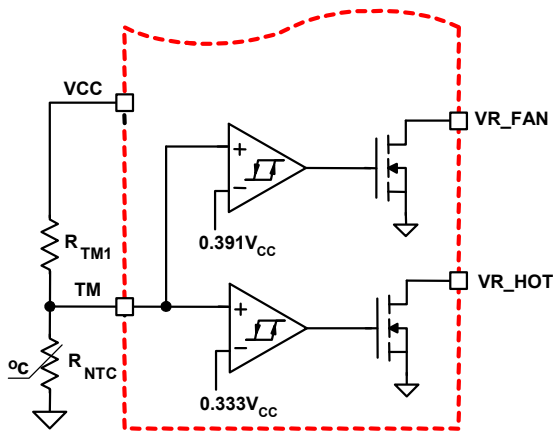
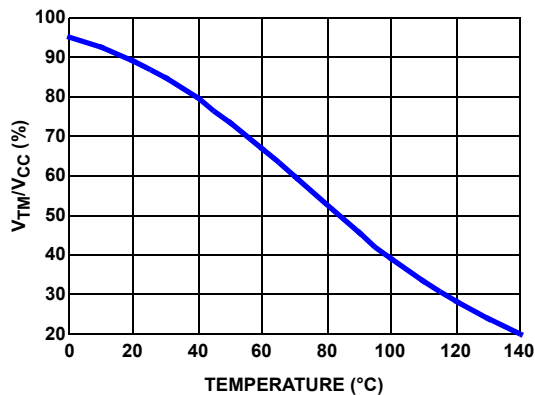

FIGURE 14. BLOCK DIAGRAM OF THERMAL MONITORING FUNCTION
FIGURE 15. THE RATIO OF TM VOLTAGE TO NTC TEMPERATURE WITH RECOMMENDED PARTS
The diagram of the thermal monitoring function block is shown in Figure 14. One NTC resistor should be placed close to the power stage of the voltage regulator to sense the operational temperature, and one pull-up resistor is needed to form the voltage divider for TM pin. The NTC thermistor should be placed next to the current sense element of a phase that will remain active when  $PSI\#$  is asserted low. As the temperature of the power stage increases, the resistance of the NTC will reduce, resulting in the reduced voltage at the TM pin. Figure 15 shows the TM voltage over temperature for a typical design with a recommended 6.8k $\Omega$  NTC (P/N: NTHS0805N02N6801 from Vishay) and 1k $\Omega$  resistor RTM1. We recommend using these resistors for accurate temperature compensation.
Based on the VCC voltage, ISL6336, ISL6336A converts the TM pin voltage to a 6-bit digital signal for temperature compensation. With the non-linear A/D converter of ISL6336, ISL6336A, the TM digital signal is linearly proportional to the NTC temperature. For accurate temperature compensation, the ratio of the TM voltage to the NTC temperature of the practical design should be similar to that in Figure 15.
1. Properly choose the voltage divider for TM pin to match the TM voltage vs temperature curve with the recommended curve in Figure 15.